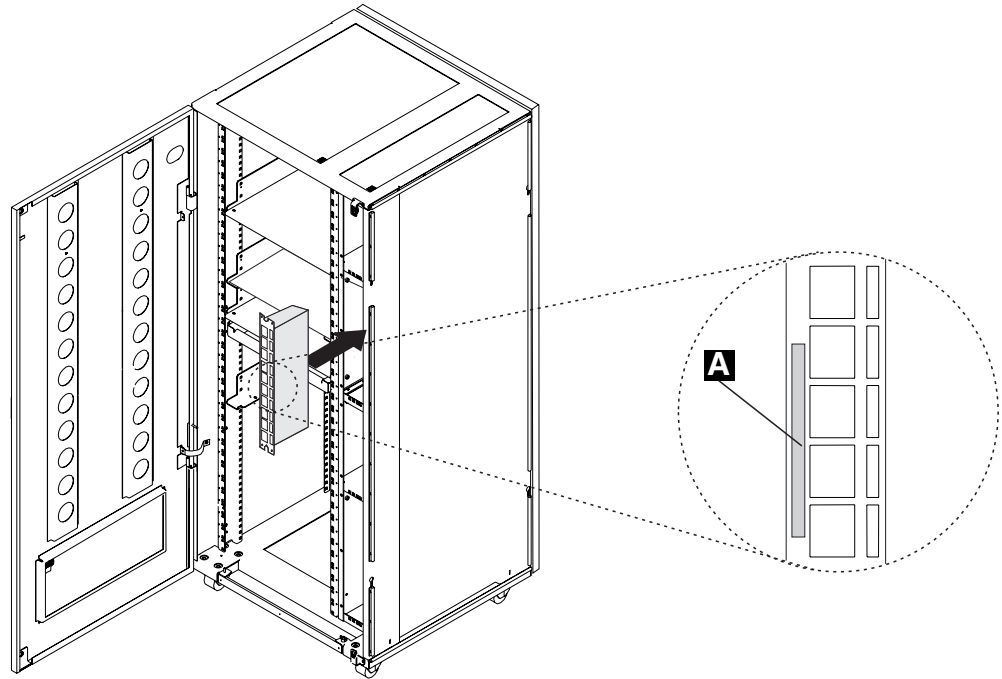

Figure 1-15. Installing the 8228 (Controller Expansion Rear side)
6. Install the 8228 in a safe place near the service processor. If you received a controller expansion, the 8228 is installed on the rear side of the controller expansion using two screws (PN 1621232) and two captive nuts (PN 58G5766) see Figure 1-15 on page 1-19. Using label **A** (PN 0782966), identify the 8228 as Service Processor Access Unit.